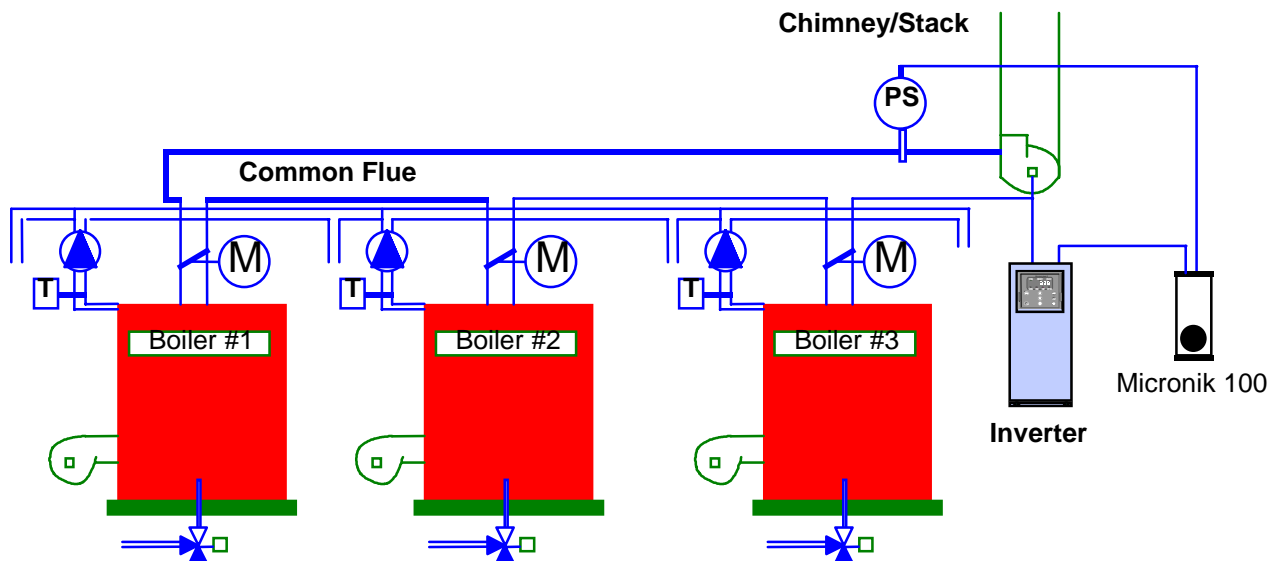

Fig. 52. Boiler flue gas ID fan application.
## Boiler Flue Gas-Induced Draught (ID) Fan (See Fig. 52)